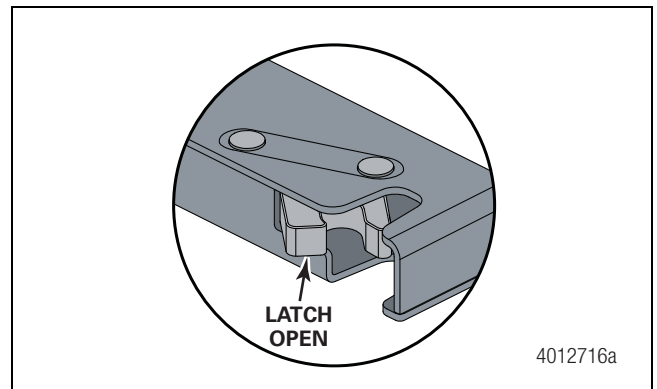

Figure 11
4. Once the slide bar has reached the end stop, the Rear Aero Auto Deployment panel latches will open. Figure 11.